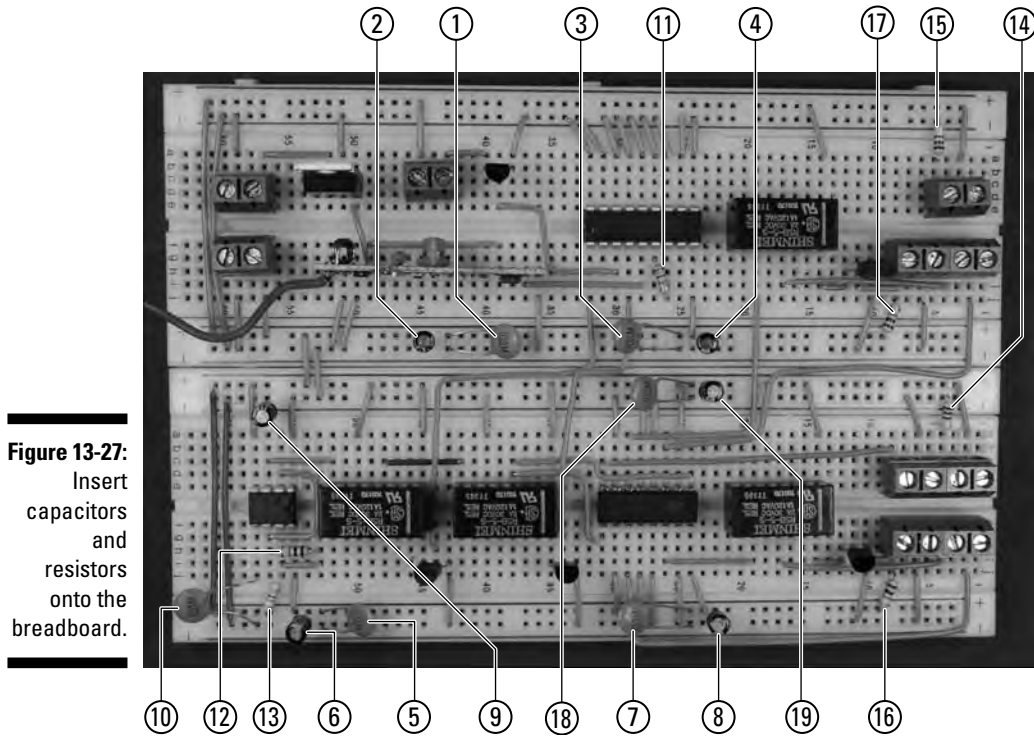

Figure 13-27:
7. Insert the following, as shown in Figure 13-27:
Use the following key for the callouts in Figure 13-27.